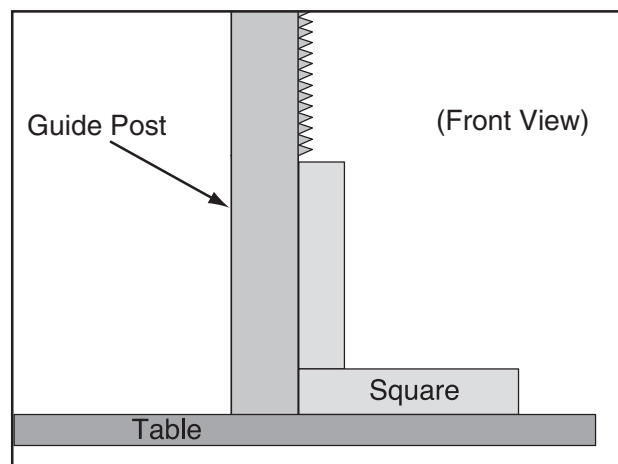

Figure 91. Example of checking guide post squareness.
6. Place a machinist's square on the table next to the right hand side of the guide post, as shown in **Figure 91**.